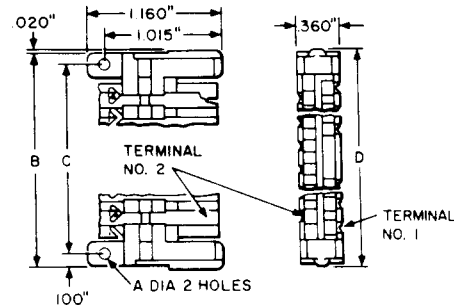

Fig. 3—919A, 921A or B, and 922A or B Connector
2.03 919A: The 919A connector (A and M only) (Fig. 3) consists of a molded housing of insulating material containing two rows of 19 spring terminals. This connector is made to plug into the 925A and B connectors and to mount on metal frames or printed wiring boards. The 38 terminal ends of the connector are arranged for solder connection to fine wire. The 919A connector is used in the No. 101 Electronic Switching System (ESS).
2.04 921A and B: The 921A and B connectors (Fig. 3) consist of a molded housing of insulating material containing two rows of 14 spring terminals having ends arranged for solder connection to 0.062 inch thick printed wiring boards. The connectors are able to mate with the 924A and B connectors and to mount on metal frames. The 921A and B connectors are used in the No. 101 ESS.
2.05 922A and B: The 922A and B (A and M only) connectors (Fig. 3) consist of a molded housing of insulated material and is able to mate with the 925A and B connectors. These connectors are equipped with two rows of 19 spring terminals having ends arranged for solder connection to 0.062 inch thick printed wiring boards. The 922A and B connectors are used in the No. 101 ESS.